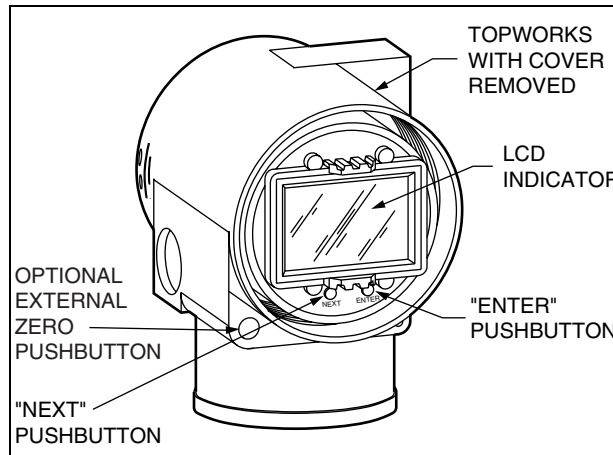

Figure 5. LCD Indicator with Pushbuttons
**Optional LCD Indicator (Figure 5)**
A pushbutton mechanism (Figure 5) is isolated from the electronics and magnetically activates a reed switch internal to the housing. This eliminates a potential leak path for moisture or contaminants to get into the electronics compartment. This zero adjustment can be disabled by a configuration selection.
Zero/span adjustments can be accomplished using the pushbuttons on the LCD Indicator (see Figure 5).
- ▶ The Optional Liquid Crystal Display (LCD) Indicator with On-Board Pushbuttons (Figure 5)